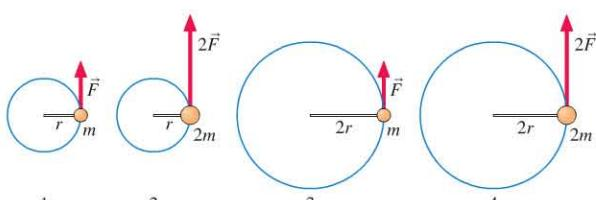

FIGURE P7.5
- III Balls are attached to light rods and can move in horizontal circles as shown in Figure P7.5. Rank in order, from smallest to